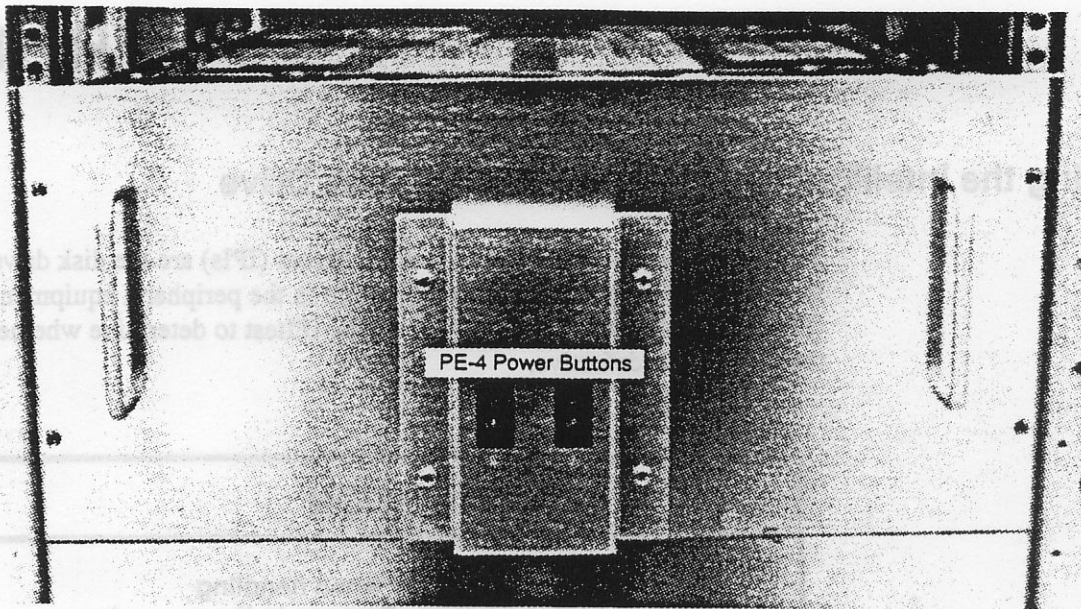

Figure 7-49. PE-4 Drawer
1. Shut off the power to the PE-4 drawer by moving the 0/1 button to the 0 position. Refer to Figure 7-49.